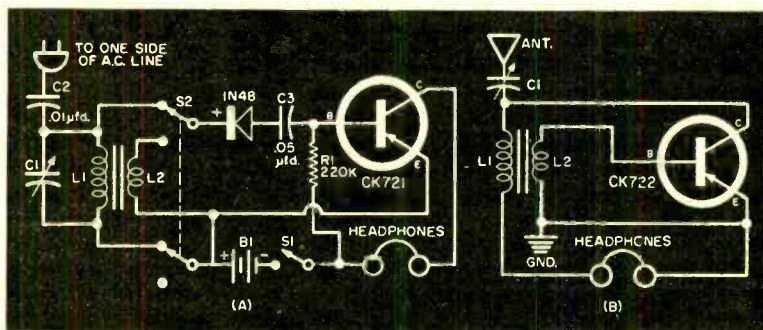

Fig. 1. Two simple receiver circuits submitted by our readers: (A) Richard Taylor’s variable selectivity receiver and (B) Mike Swink’s self-powered radio.
Featuring a unique *variable selectivity control*, the circuit shown in Fig. 1(A) was submitted by Richard Taylor, of 308 Stratford Rd., Brooklyn 18, N. Y. *C1* is a standard 365- μ fd. variable capacitor and *L1* a
An interesting "self-powered" radio circuit is shown in Fig. 1(B). Submitted by Mike Swink, of 4627 Cedar Springs, Dallas 19, Texas, this receiver requires neither dry cell nor sun battery for operation. Tuning capacitor $C1$ is a 380- μ fd. variable capacitor (365 μ fd. will work also). $L1$ is a standard broadcast-band Feri-Loopstick with six turns of #22 wire wound right on top of its coil ($L2$).